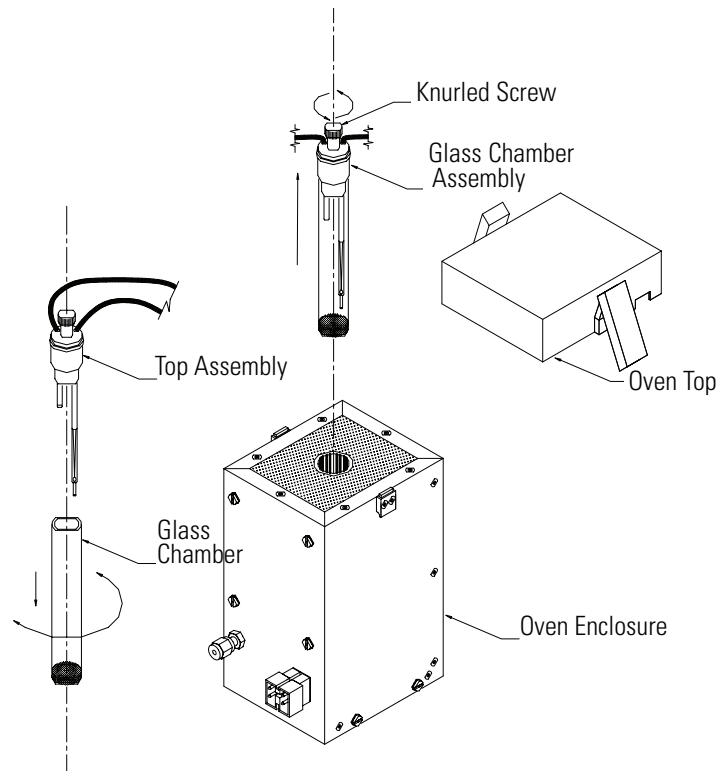

Figure 2-3. Removing the Glass Chamber Assembly
- c. Remove glass chamber assembly (Figure 2-3) by loosening (not removing) knurled screw, located at the top of the chamber, and gently pulling assembly upward. Completely remove assembly from oven.
- d. Separate glass chamber from top assembly by twisting and gently pulling glass away from top (Figure 2-3). Keep glass clean by using Kimwipes or similar material to handle glass.
- f. Attach glass chamber to top assembly by gently pushing together with a slight twisting motion (Figure 2-3).